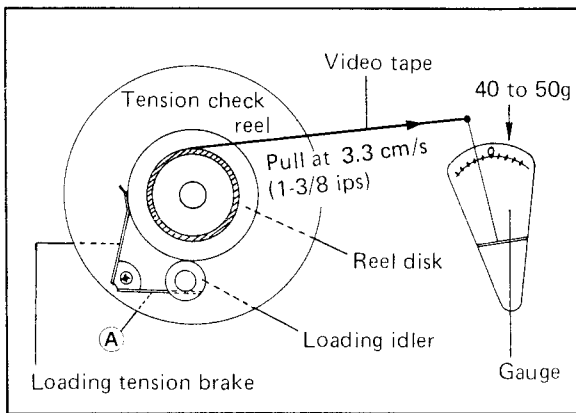

Fig. 5-7
5. Measure the supply loading tension by pulling the video tape, and reading a tension gauge as shown in Fig. 5-7.